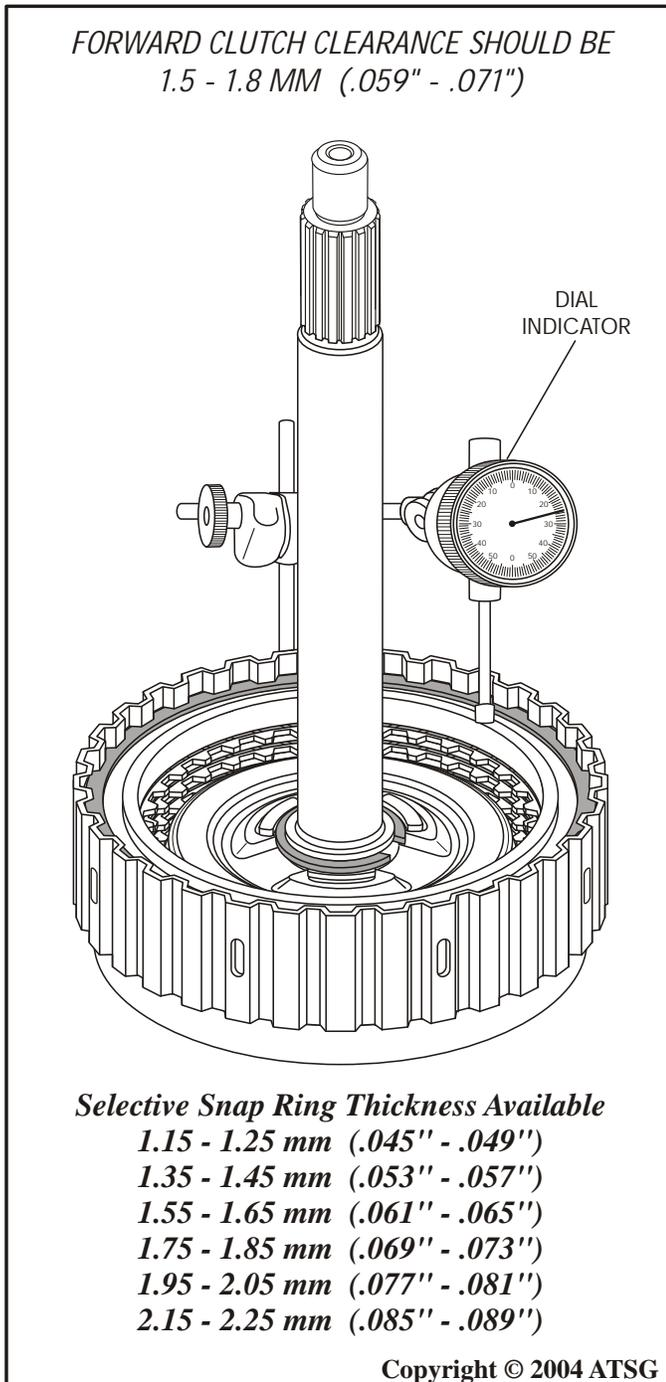

Figure 68
14. Install dial indicator, as shown in Figure 68, with the plunger resting on backing plate, and zero the dial indicator.
16. Forward clutch pack clearance should be, 1.5 to 1.8 mm (.059" to .071"), as shown in Figure 68.